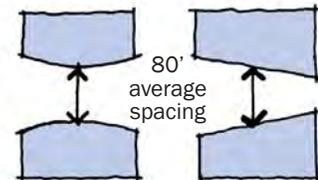

Figure 6-2 Plan and axonometric diagram showing minimum tower spacing to existing and future adjacent towers and exceptions.
1. Generally, the portion of a tower above 150 feet shall be spaced at least 80 feet from all existing or possible future towers, both on the same block and across the street, except where 1) the towers are offset (staggered), 2) the largest windows in primary rooms are not facing one another, or 3) the towers are curved or angled, as illustrated in Figure 6-2.
Where there is an existing adjacent tower, the distance should be measured from the wall of the existing adjacent tower to the proposed tower. Where there is no existing adjacent tower, but one could be constructed in the future, the proposed tower must be 40 feet from an interior property line and 40 feet from the alley center line shared with the potential new tower as shown in Figure 6-2.